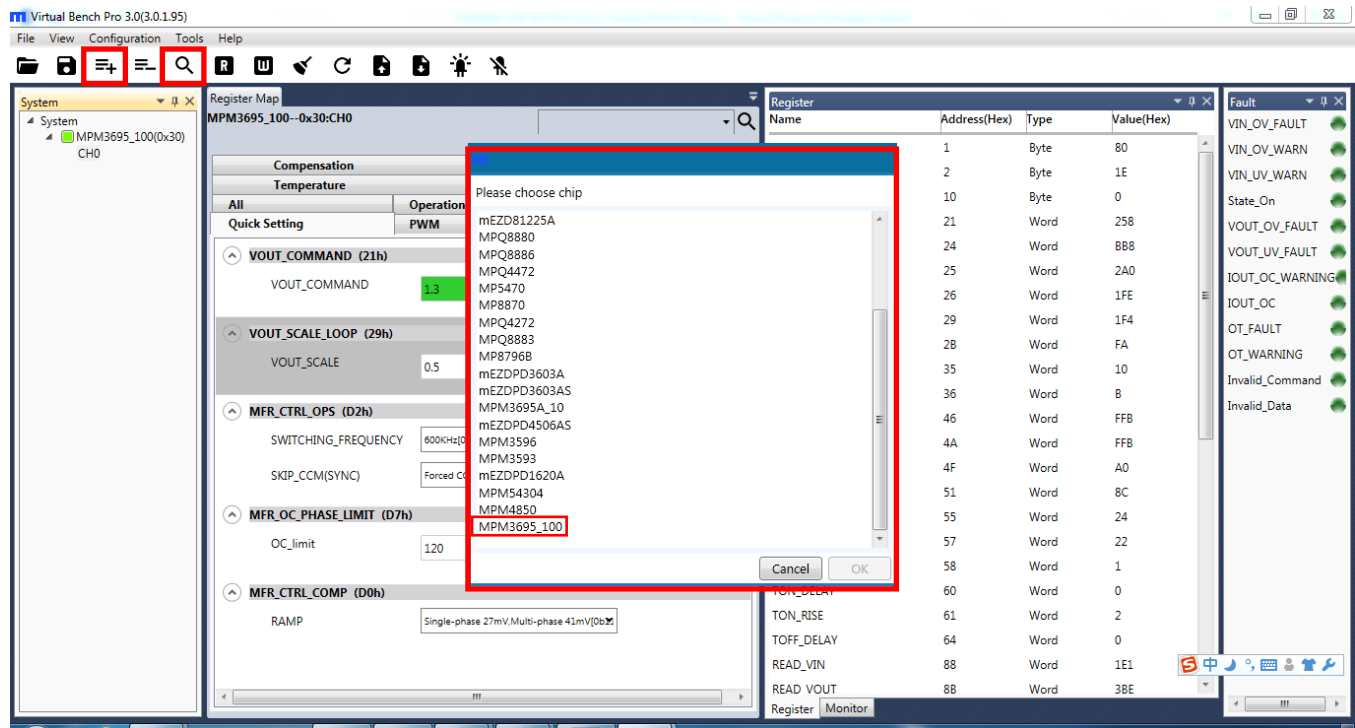

Figure 9: Selecting the MPM3695-100
1. Click on the icon denoted with three horizontal lines and a (+) sign (see Figure 9). Choose the MPM3695-100 from the list.
2. Click on the magnifying glass icon, then search for the I²C address (see Figure 9).
4. Click “Change chip address,” then enter the value of the slave (0x). The module should be manually added (see Figure 9).